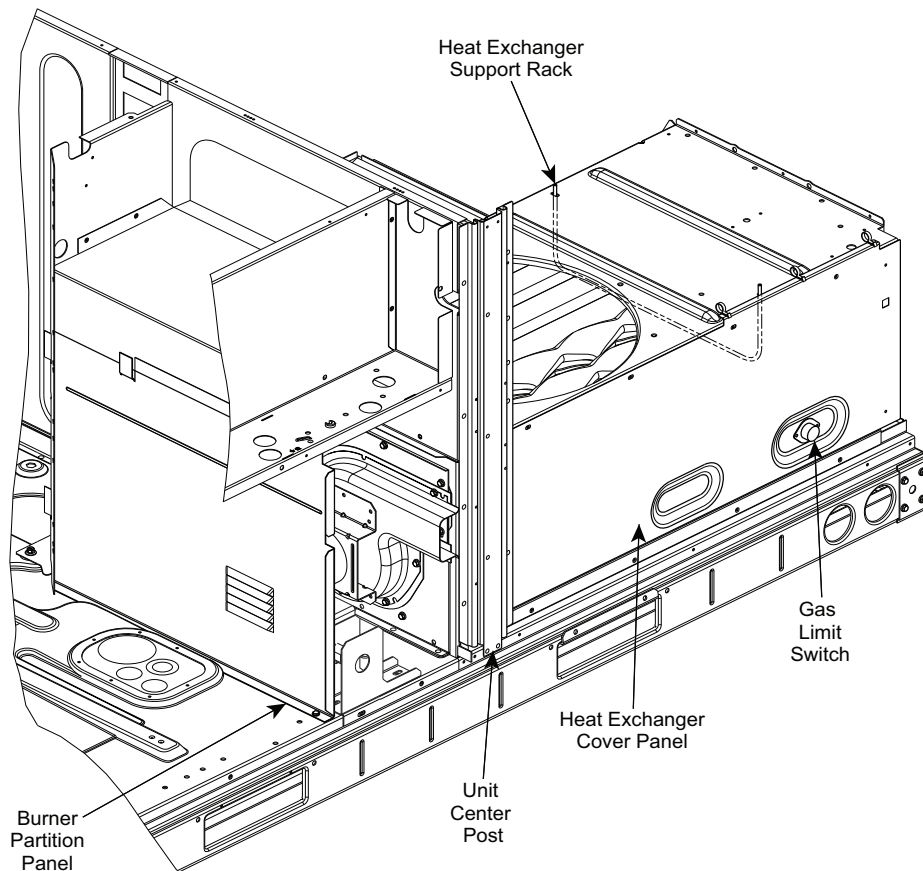

Fig. 53 — Heat Exchanger Access — Internal Panels, Center Post and HX Rack Locations
1. Remove the screw at the base of the burner partition panel (see Fig. 53) and slide out the panel.
5. Remove the screw at the base of the burner partition panel (see Fig. 53) and slide out the panel.
3. Remove the unit center post (see Fig. 53).
Remove the indoor blower access panel. Limit switch is located on the heat exchanger cover panel. See Fig. 53.